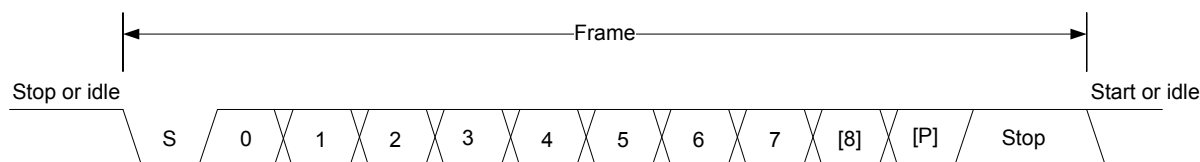

Figure 19.2. LEUART Asynchronous Frame Format
The frame format used by the LEUART consists of a set of data bits in addition to bits for synchronization and optionally a parity bit for error checking. A frame starts with one start-bit (S), where the line is driven low for one bit-period. This signals the start of a frame, and is used for synchronization. Following the start bit are 8 or 9 data bits and an optional parity bit. The data is transmitted with the least significant bit first. Finally, a number of stop-bits, where the line is driven high, end the frame. The frame format is shown in Figure 19.2 LEUART Asynchronous Frame Format on page 640.